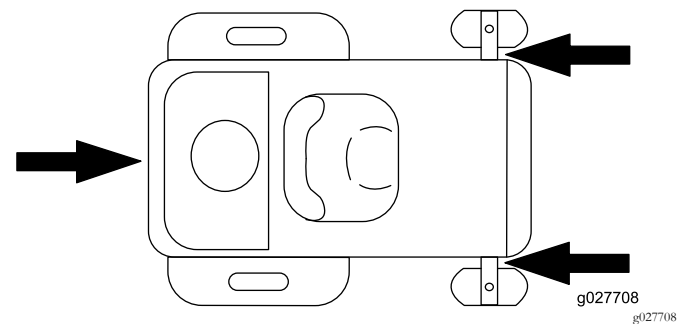

Figure 31
5. Tie down the machine near the front caster wheels and the rear bumper (Figure 31).